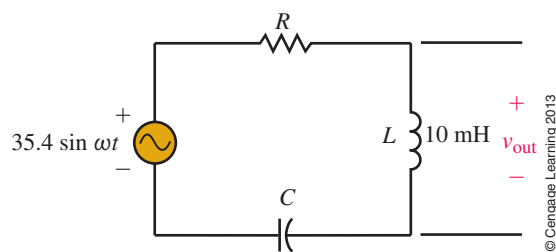

FIGURE 21–57
13. Consider the circuit of Figure 21–57.